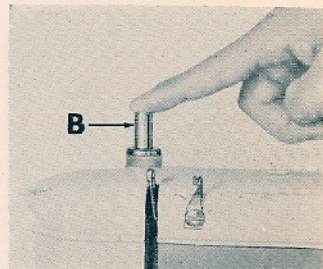

Fig. 20
2. To increase the pressure of the presser foot for sewing very heavy material, normal material and very thin material, push the PUSHBUTTON DARNER (B) gradually down to increase the pressure of the presser foot accordingly. (Fig. 20)